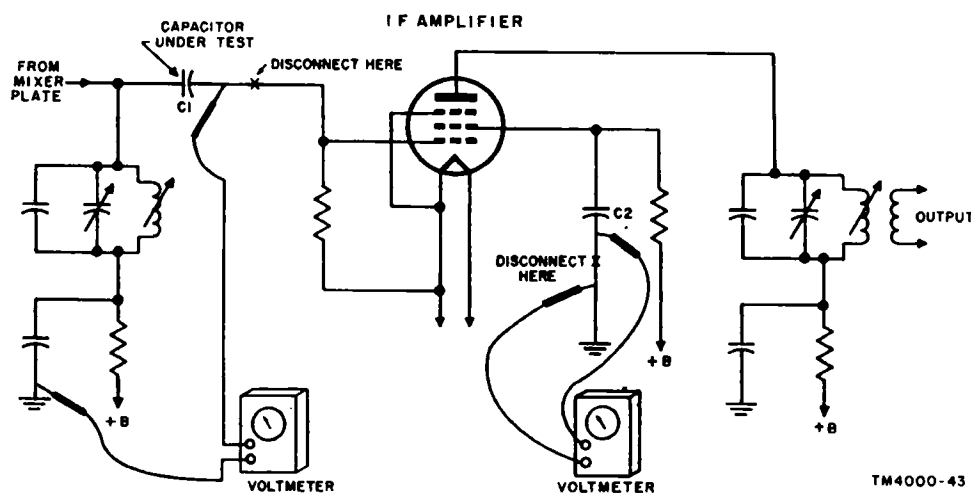

Figure 42. Method for checking capacitors with a voltmeter.
- (1) To determine whether a capacitor is leaky or shorted, disconnect it from the circuit and test it with an ohmmeter. There are occasions when a leak will not show up unless the capacitor is subjected to the voltage appearing in the set; therefore the ohmmeter test will not indicate a defect. Disconnect coupling capacitor C1 in figure 42 at the low-voltage side. Connect the voltmeter between the free end of the capacitor and ground and turn the set on. If there is a short or leak in C1, part of the dc voltage applied to the other side of C1 will be indicated on the voltmeter.
- (2) A suspected bypass or filter capacitor (C2, fig. 42) should be disconnected at the ground side. Connect the voltmeter between the low side of C2 and ground. With the set turned on, part or all of the screen-grid voltage will be indicated on the voltmeter.
- (3) Whenever a capacitor, such as C1 or C2 in figure 42, is suspected of being open, the quickest way to check it is to shunt a good capacitor across it.
- (4) Capacitors of comparatively large values, such as electrolytics, can be tested for open circuits with an ohmmeter. Be sure to connect the positive lead of the meter to the positive lead of the capacitor. Connect the ohmmeter terminals across the capacitor terminals and watch the meter needle. If the capacitor is good, the needle will rise rapidly as the capacitor is charging, and will fall slowly as the capacitor becomes charged.
- (5) Another way of testing is to connect the capacitor across a source of dc power where the voltage is equal to, or less than, the dc voltage rating of the capacitor. If the capacitor is polarized, be sure to connect the plus side to the plus side of the power source. After a few seconds of contact, remove the capacitor and bring its terminals close together. If a spark results, the capacitor is not completely open.
- (6) Capacitors may change in value, thereby producing abnormal results. To check the capacitor accurately, it is